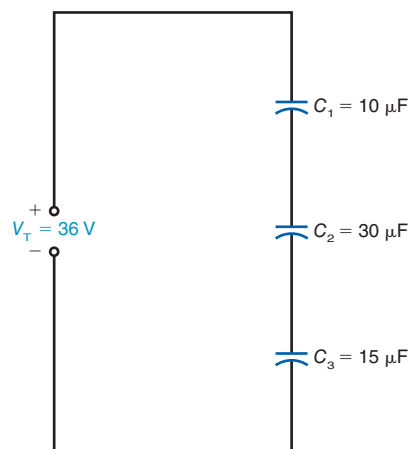

Figure 15-17
- 15.18** In Fig. 15-17, assume a charging current of $180 \mu\text{A}$ flows for 1 s . Solve for